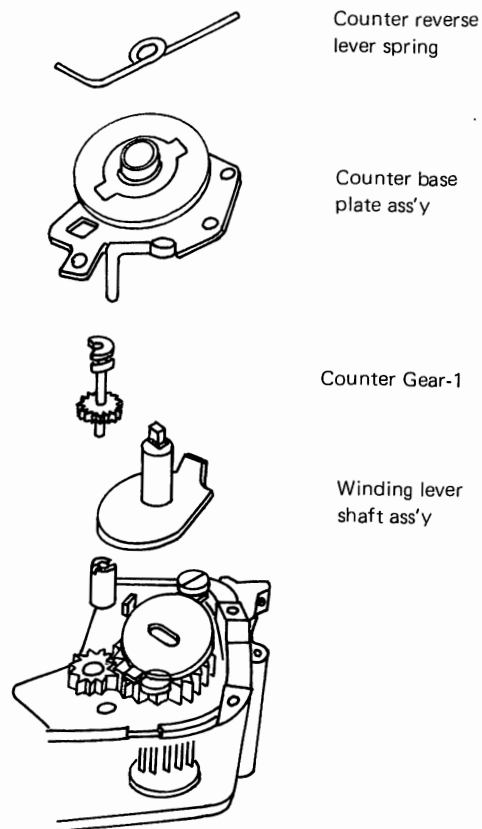

Fig. 7
- (1) Mount the winding base plate and the winding shaft.
- (2) Agree the convex part pulled by the winding lever shaft ass'y with the notched part made in the counter reverse lever at the back side of the body. See Fig. 7.
- (6) Turn the convex part at upper side of winding shaft ass'y one-half ($1\frac{1}{2}$ time) to the counterclockwise to provide the spring with a restoring force, and set the winding shaft ass'y at the position just opposite to the notched part.
(7) Mount the winding lever shaft ass'y at the correct position referring to the counter base plate ass'y, and install the counter base plate ass'y so that the winding head can be limited by the counter base plate ass'y. See Fig. 7.